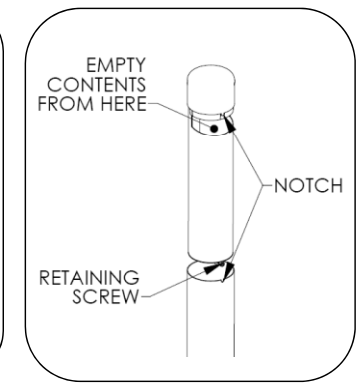

Fig. 7 – Empty contents
3. Replace ash tray unit, aligning notches as shown in Fig. 7.